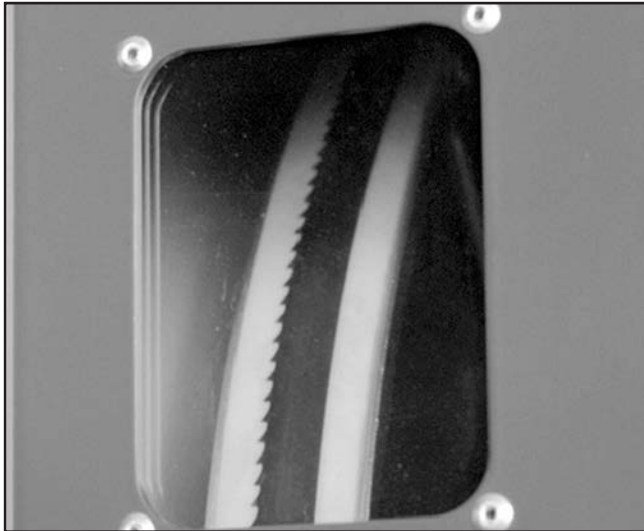

Figure 73. Blade tracking window.
2. Observe the blade tracking path through the clear window on the right edge of the bandsaw as shown in **Figure 73**.